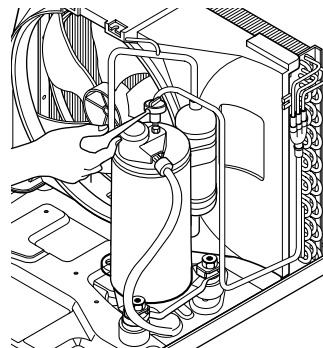

Figure 21
3. Remove the terminal cover. (See Figure 21)